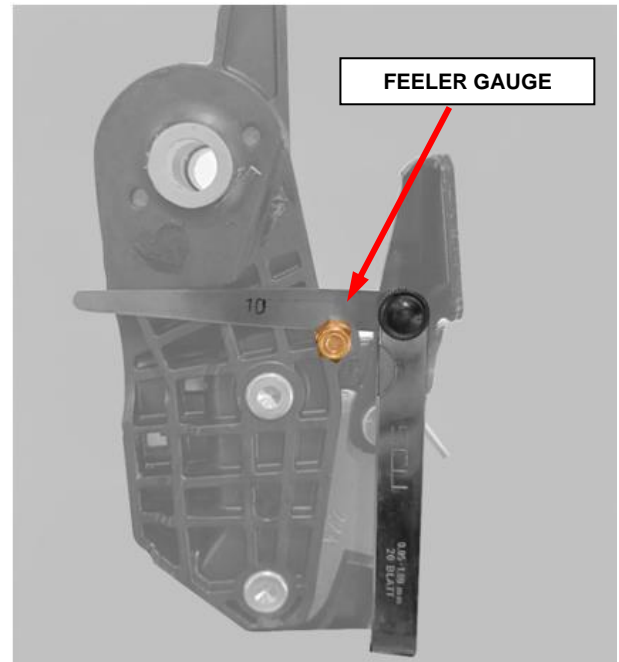

Figure 3 – Feeler Gauge
6. Tighten the nut using a feeler gauge as shown (Figure 3).